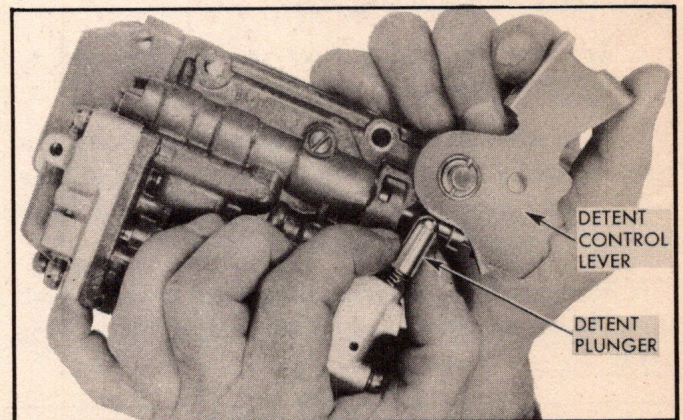

Fig. 173—Removing Detent Spring and Plunger
1. Move inside detent control lever slowly counter-clockwise to remove detent tension spring and plunger (Fig. 173). Remove manual valve.